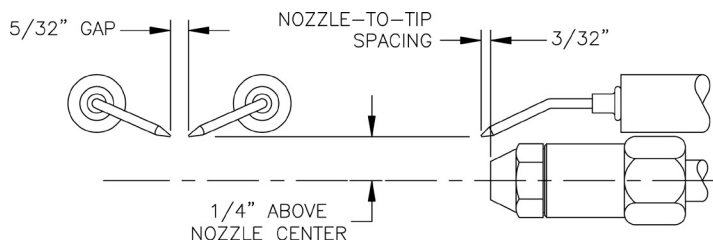

Figure 8-3: Electrode Tip Gap and Spacing
- a. Verify nozzle size, gun setting and positioning of electrodes. See Figures 8-3 through 8-5 and Beckett NX Burner Specifications, Table 14-3 at the rear of this manual.
- h. Check electrodes to comply with dimensions shown in Figure 8-3. For adjustment, loosen the electrode clamp screw and slide /rotate electrodes as needed. Securely re-tighten the clamp screw when finished.